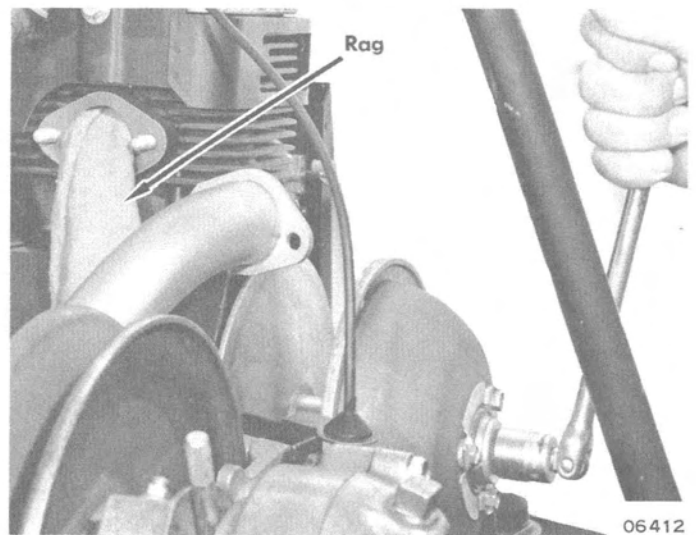

Figure 2. Rag Inserted to Stop Piston Movement
4. Remove exhaust pipe from exhaust port and insert a rag at top of piston to prevent piston from moving. (Figure 2)
5. Remove retaining bolt, washers and cupped washer. (Figure 2)